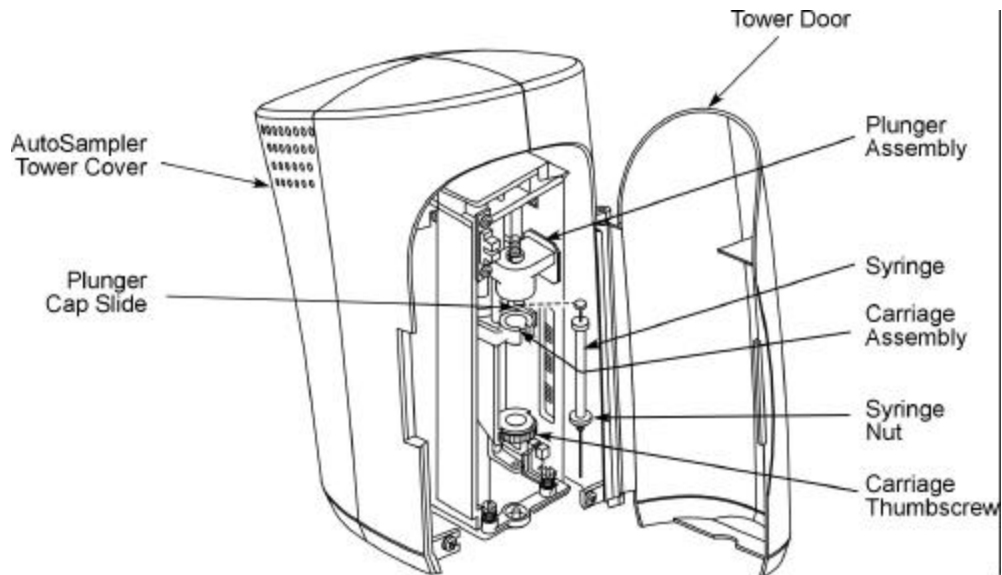

Figure 2-8 Installing the syringe.
3. Insert the syringe needle through the bottom of the carriage assembly and use your finger to carefully guide the needle through the hole in the needle guide (see Figure 2-8).